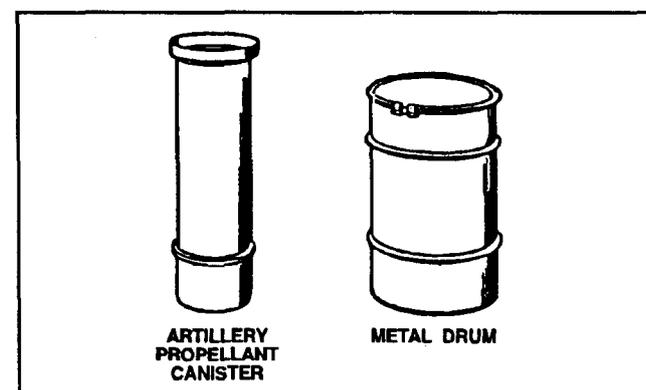

Figure 5-9. Examples of sealable containers.
- Find a suitable, sturdy, sealable container into which the projectile may be placed (Figure 5-9). Carefully place the round into the container. Use packing material to keep the container from tearing the plastic bag and causing increased leakage. Seal the container.